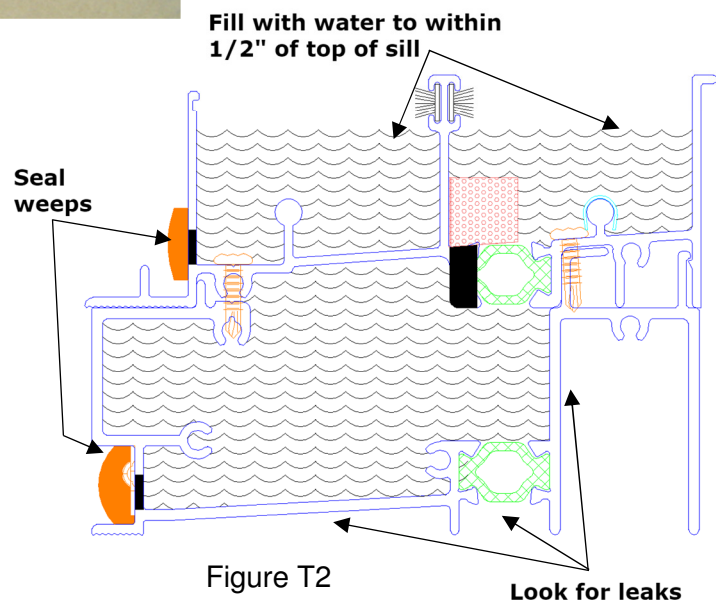

Figure T2
- C. Fill the sill to within a half an inch from the top of the sill with water (Reference Figure T2 below).